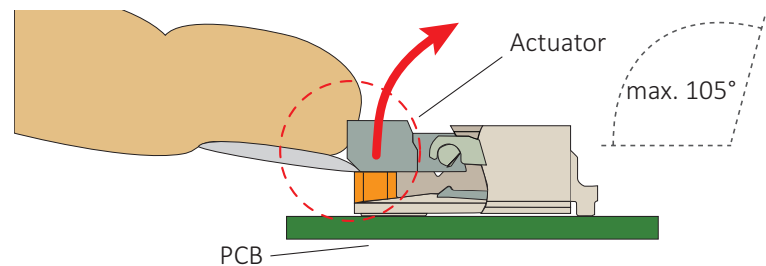

Figure 13: Opening the FPC connector
1. Opening the FPC connector: With your fingernail\*, flip the actuator to open position at 105° to the PCB surface, see Figure 13.